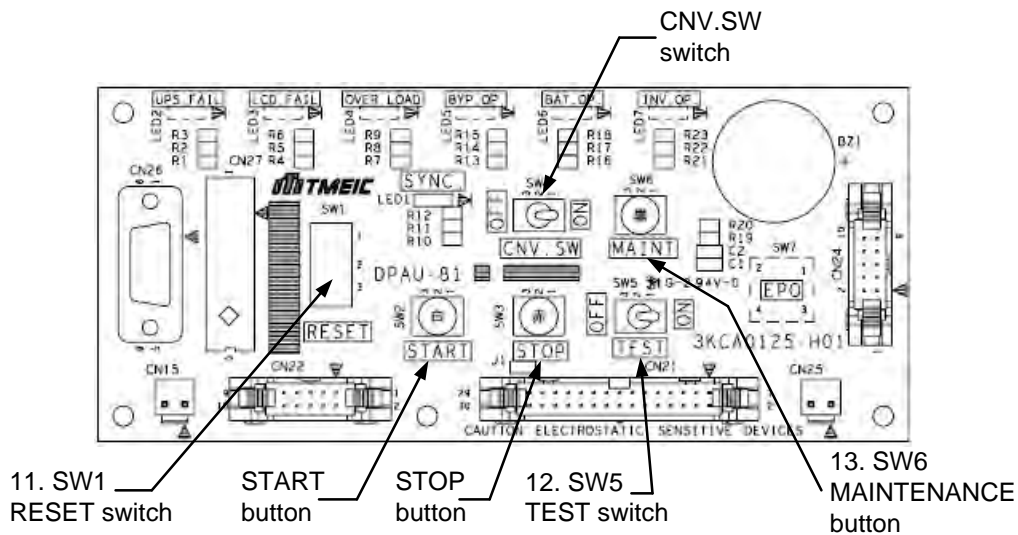

Figure 3-9 Display PCB DPAU-81
2. **Display PCB DPAU-81 (Figure 3-9):**
- (11) SW1 (RESET switch)
- (12) SW5 (TEST switch)
- (13) SW6 (MAINTENANCE switch)